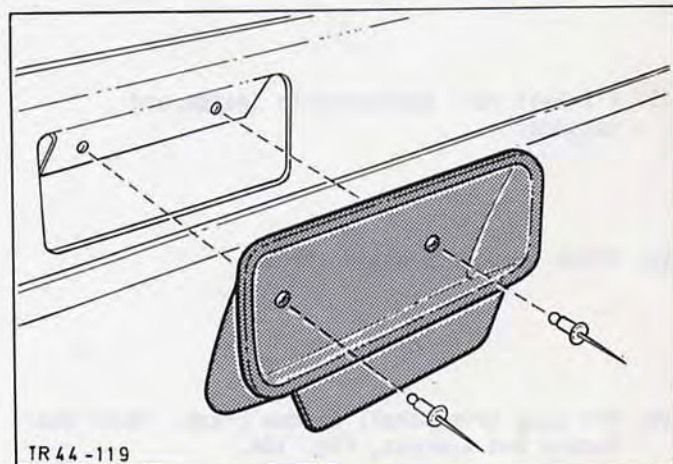

Fig.101. Fix pull-to grip with blind rivets.
18. Insert pull-to grip in door and fix with blind rivets, Fig.101.